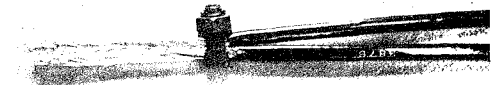

Fig. 3
4.06 Install a 22031 Bridging Connector over the exposed shield wire of the two Z Service Wires as close as practical to the outer black polyvinyl-chloride jacket as shown in Fig. 3. Hand tighten the nut of the bridging connector being careful not to damage the inner conductors.